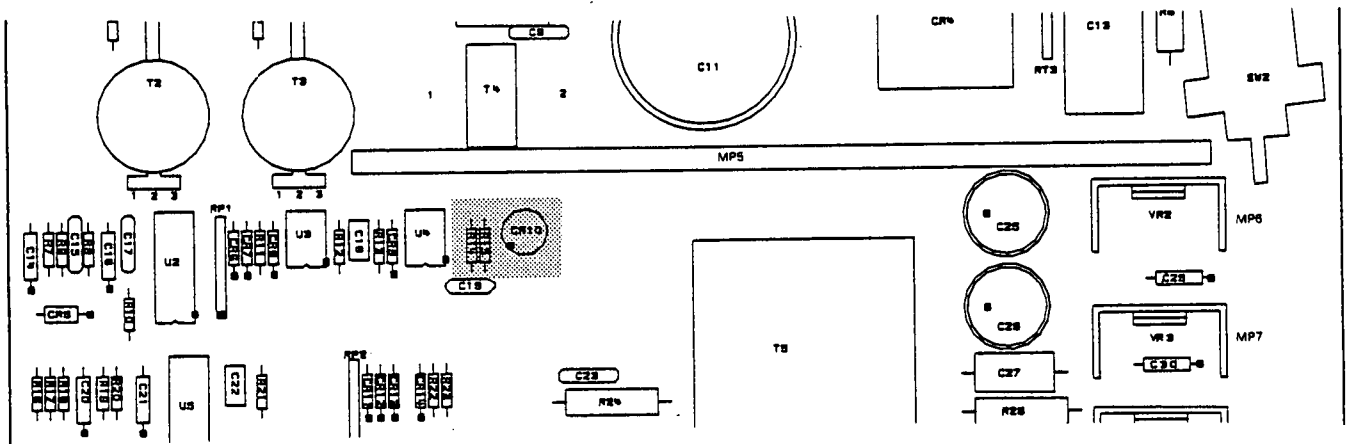

Figure 2. Power Supply Board Component Locator.
- 14) On the Power Supply board, carefully unsolder the 68.1 Ω resistor (R15). See figure 2. The resistor can be removed and replaced without removing the power supply board from the instrument.